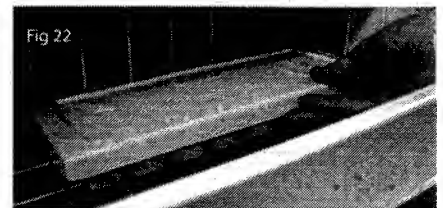

Fig 22
- When making ice, use the supplied covered ice tray or ice bags (Fig 22).